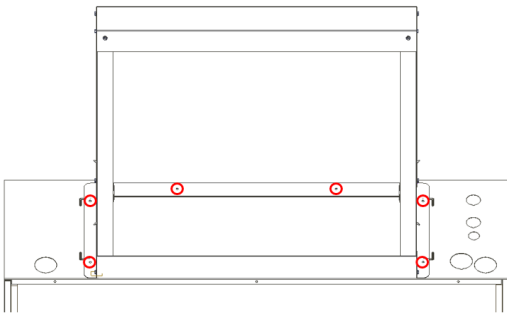

FIGURE 6 – Screw Locations
- Hold assembly in place, add screws in locations shown in Figure 6